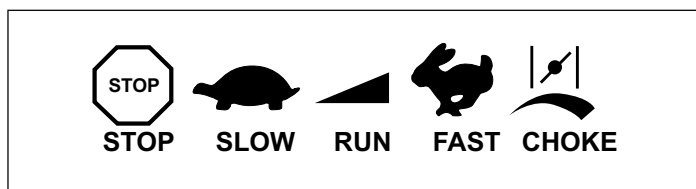

Figure 9. Typical Engine Symbols
2. Move independent speed control to "FAST" position and set independent choke control to "FULL CHOKE" position (see equipment manufacturer's instructions). See Figures 9 thru 11.